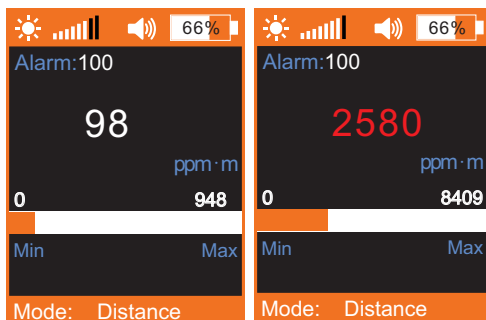

Fig. 7: Measuring mode
- The current measurement value is in red (fig. 7, right image).